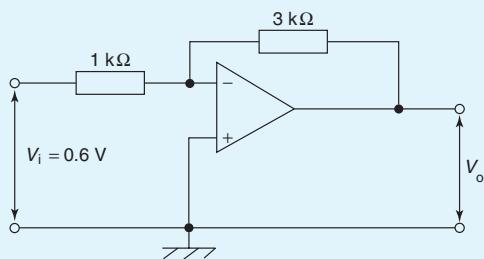

Figure 19.26
4. The output voltage,  $V_o$ , in the amplifier shown in Fig. 19.26 is:
5. The  $3\text{ k}\Omega$  resistor in Fig. 19.26 is replaced by one of value  $0.1\text{ M}\Omega$ . If the op amp has an input bias current of 80 nA, the output offset voltage is: